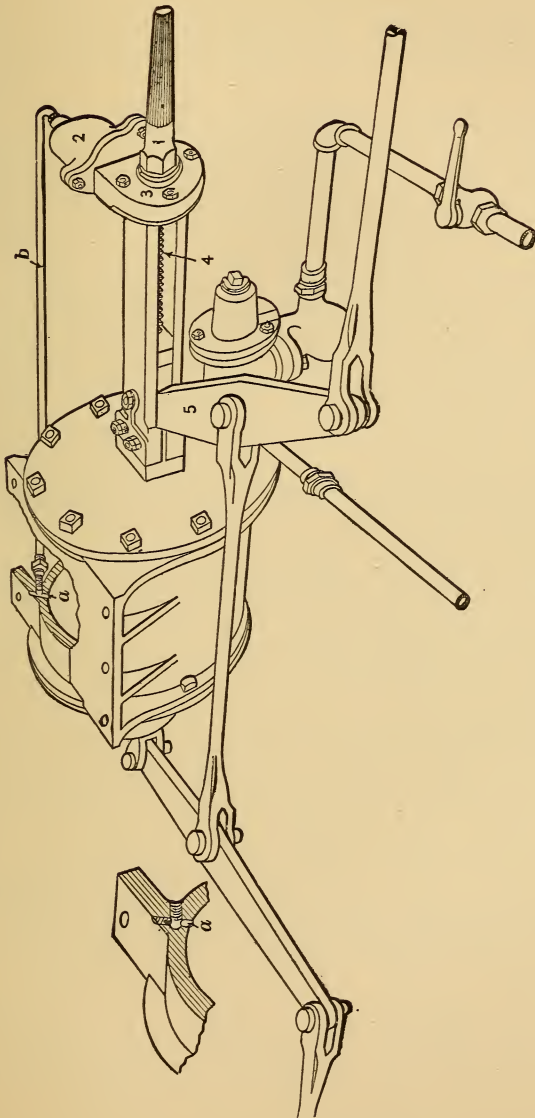
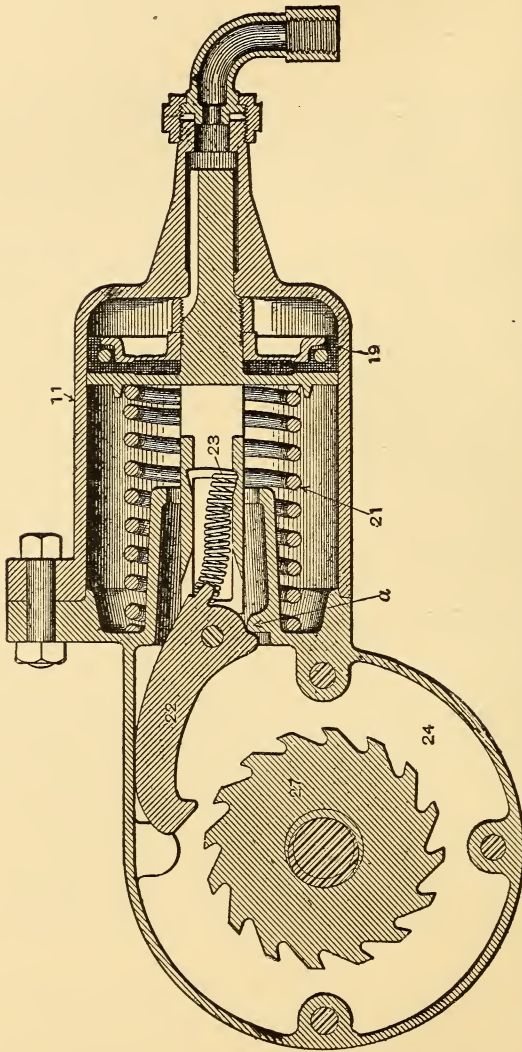

FIG. 12.—SHOWING APPLICATION OF AMERICAN BRAKE SLACK ADJUSTER TO A PASSENGER CAR EQUIPMENT.
FIG. 13.—SECTIONAL, END VIEW OF AMERICAN AUTOMATIC BRAKE SLACK ADJUSTER.
Q. Name the different parts of the American Brake Slack Adjuster shown in Fig. 13?
Q. Name the parts shown in Fig. 12?
*Q. What is the object of the lug *a* (Fig. 13)?*
A. As illustrated in Fig. 13, its object is to lift the pawl out of the ratchet nut (27) when the adjuster piston is in release position. In the position shown the ratchet nut can be turned by hand to take up or let out slack when necessary, as when applying new brake shoes.
A. In Fig. 13 it is shown in the normal or release position. If there is sufficient slack in the brake rigging, so that the piston in the large cylinder (Fig. 12) uncovers port *a* when the brake is applied, cylinder pressure will pass through port *a*, pipe *b*, and into cylinder 11 (Fig. 13). The piston will be forced out,
When the brake is released and the piston in the brake cylinder is forced to release position by the release spring, port *a* is connected with the non-pressure end of the cylinder, hence the air in the slack adjuster cylinder passes through pipe *b* (Fig. 12), port *a*, and out to the atmosphere through the non-pressure head.
When the air is released from the slack adjuster cylinder the piston spring 21 forces the piston back and it in turn, through the pawl, turns the ratchet nut which draws the screw away from the cylinder. Lever 5 (Fig. 12) is fastened to a crosshead attached to the adjuster screw, hence the lever is moved correspondingly, the effect of which is to draw all the brake shoes nearer to the wheels.
Q. How many teeth does the pawl skip at each movement of the adjuster piston throughout its stroke, and what movement of the crosshead attached to lever 5 (Fig. 12) result?
Q. If the adjuster nut 1 (Fig. 12) is moved one turn, how far will the crosshead attached to the lever 5 be moved?
A. The location of port *a* in the brake cylinder (Fig. 12). It is usually located to obtain an eight-inch "running" travel.
A. By turning the ratchet nut 1 (Fig. 12) to the left.
A. Drill port *a* so that brake cylinder pressure can reach pipe *b* after the cylinder piston has travelled eight inches and erect the parts and piping as shown in Fig. 12, pipe *b* to be copper. The upright part of port *a* (Fig. 14) is drilled with a $\frac{1}{8}$ -inch drill and the upper portion plugged; the part of the port into which pipe *b* connects is drilled and tapped for $\frac{1}{4}$ -inch pipe. After erecting, test joints with soap suds. Next put on a new set of brake shoes and adjust the piston travel by means of the dead levers, from six to six and one-half inches.
A. The adjuster is so designed that the crosshead, when at the end of its stroke, is drawn against a set screw next to the cylinder casing 3 (Fig. 12), but not shown in the cut. Removing this set screw permits of a further movement of the crosshead and the usual operation takes place, allowing the pawl to be disengaged. The adjuster nut may then be turned by hand, thus moving the crosshead nearer the large cylinder for the purpose of giving sufficient slack to permit of the application of new brake shoes. The set screw should always be replaced after the pawl has been liberated and the crosshead moved back.